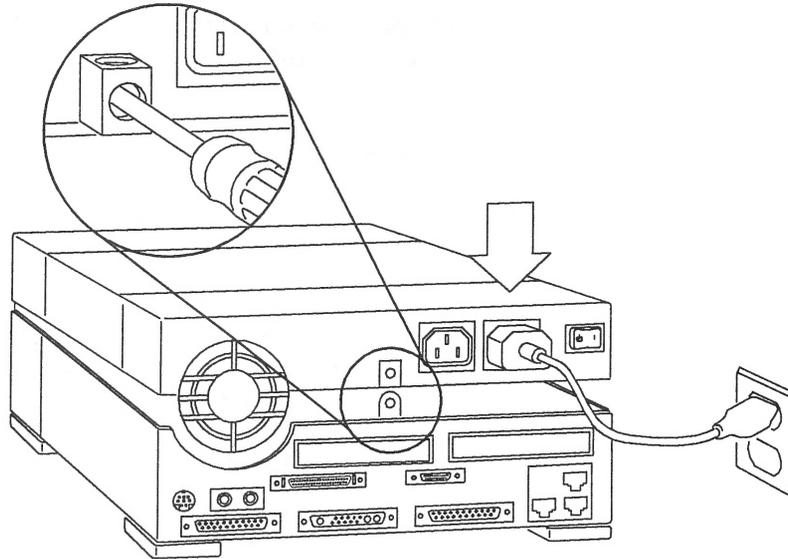

Figure 7-9 Attaching the Lock Block
6. Attach the lock block. Refer to Figure 7-9.